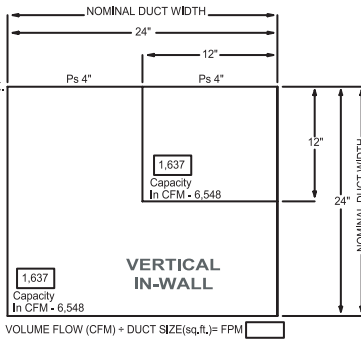

FIGURE 1
- When ordering dynamically rated fire dampers**, also refer to Figures 1 through 6 on page 15. When duct sizes are larger than the sizes shown, multiple unit assemblies are required. Since each individual damper in the assembly has its own heat responsive device, it must be assumed that each damper will close at slightly different times. Because of this, Underwriters Laboratories requires that the total volume of air for the assembly must not exceed the allowable rating of the smallest unit in the assembly.